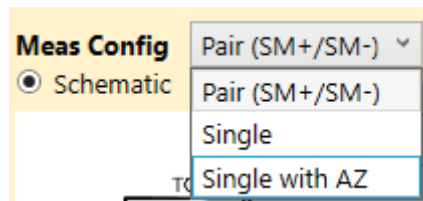

Figure 70. Meas Config Menu
The Meas Config menu (see Figure 70) affects the internal calculations and Graphs only and it allows to select from the following options:
- Pair (SM+/SM-): a pair of measurements i.e., the SM+ AND SM- readings (see Figure 70)